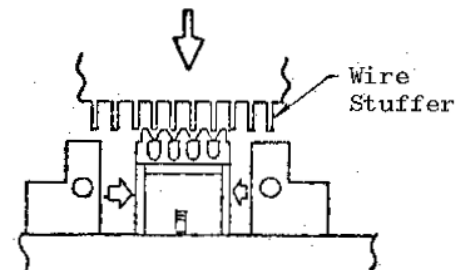

Fig. 11
- (2) Slowly lower the press ram, seeing that wire stuffer is just fitting to contact positions of connector without signs of conflict. With the connector positioned at this setting, fit and screw on the connector locators tentatively but not securely. (See Fig. 11.)